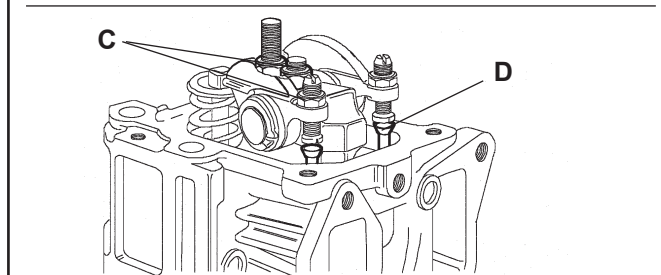

Fig. 5.19
5.23 ROCKER COVER (FIG. 5.19)
5.24 ROCKER ARMS (FIG. 5.19)
5.25 PUSHRODS (FIG. 5.19)